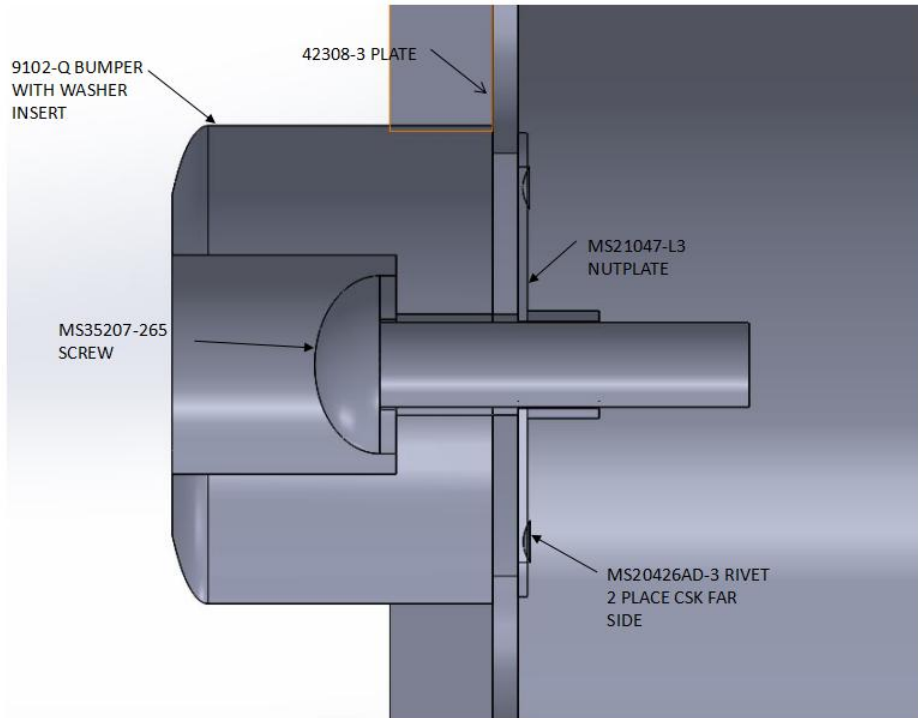

Figure 2
3. If required, replace the 9102-Q Bumper. To ease replacement of the 9102-Q Bumper, or equivalent 65+/-5 SDH Neoprene rubber bumper, it is recommended that the 42308-3 Plate be modified to 42308-501 Plate Assembly by installing a MS21047-L3 nutplate (Refer to figure 2). The 42308-501 Plate Assembly is common to late production Model 114B/114TC aircraft and is allowable for all spares.